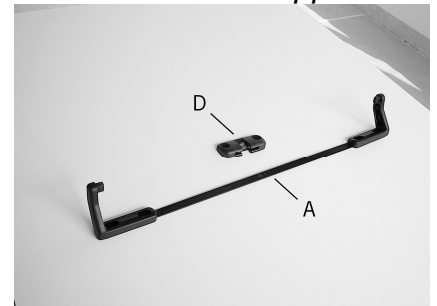

Figure 2
- B. Select the correct form of brackets (Fig. 2).